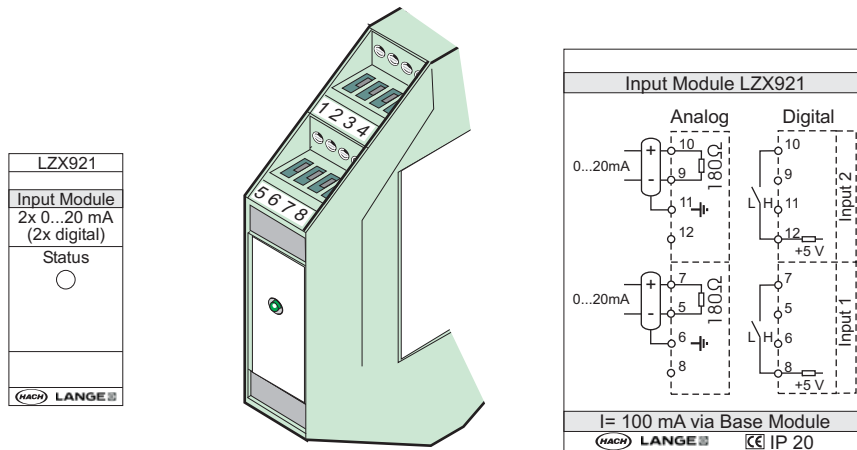

Figure 80 External input module
3. Make the appropriate connections as shown in Figure 80 and Table 53.